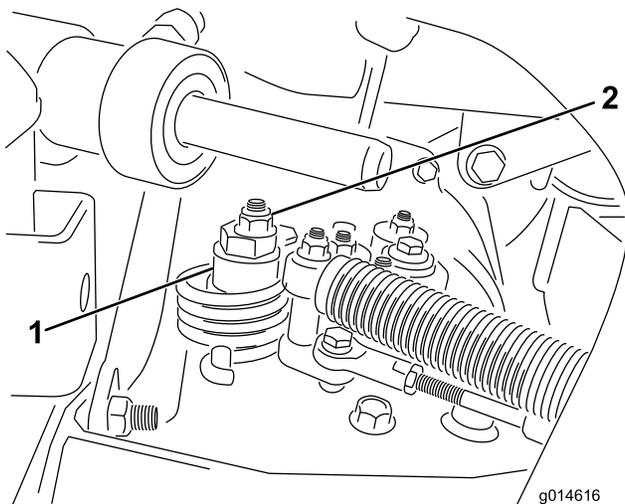

Figure 51
- A. Loosen the nut securing the eccentric to the top of the hydrostat (Figure 51).
- C. Rotate the eccentric until creep does not occur in either direction. When the wheel stops rotating, tighten the nut locking the eccentric and the adjustment (Figure 51). Verify the adjustment with the throttle in the Slow and Fast position.